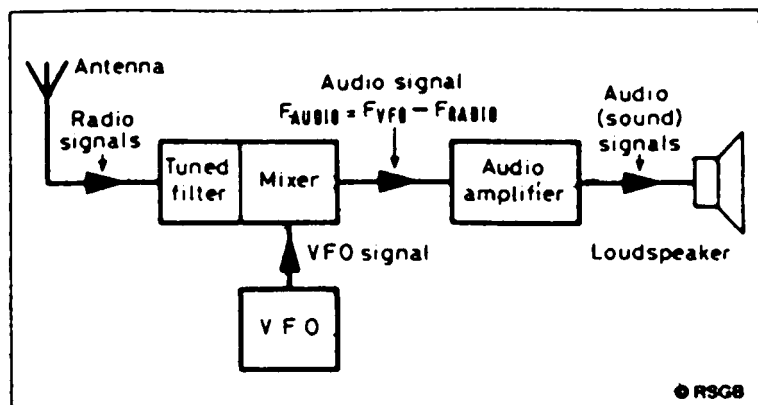

Figure 1 Stages of direct-conversion receiver
In Part 2 we marked out the case ready for installation of the modules when they are completed. In this part, the building of the variable-frequency oscillator (VFO) and mixer will be described. This will produce a type of receiver known as *direct-conversion*, because it converts the radio-frequency (RF) signal directly into an audio-frequency (AF) signal which we can hear in a loudspeaker after amplification. A block diagram of the system is shown in **Figure 1**. The modifications needed to make a full superheterodyne receiver will be left until later.